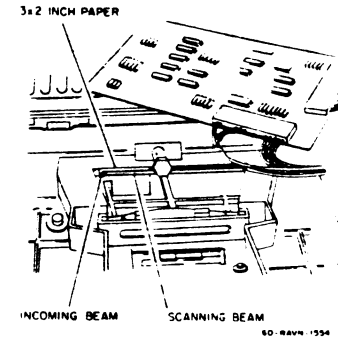

Figure 2. Scanning Beam Properly Aligned
7. PASS A 3 x 2-INCH PIECE OF PAPER ALONG THE LONG MIRROR UNTIL IT JUST INTERSECTS WITH THE INCOMING BEAM (FIGURE 2).
9. IF THE SCAN BEAM IS HIGHER THAN THE INCOMING BEAM (FIGURE 3), TURN THE ADJUSTING SCREW COUNTERCLOCKWISE TO BRING THE BEAM DOWN. THE INCOMING BEAM AND THE SCAN BEAM MUST BE AT THE SAME HEIGHT FOR PROPER ALIGNMENT, AS SHOWN IN FIGURE 2.